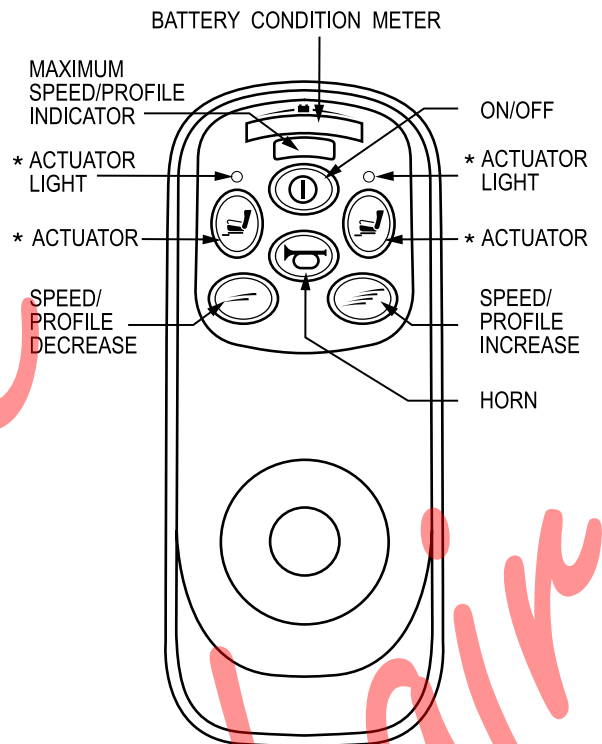

Figure 18. VSI Controller Keypad
2. keypad (see figure 18)
The keypad is located in front of the joystick. It contains keys necessary to operate your Jazzy. See figure 18.
The battery condition meter is located in front of the joystick. See figure 18. This is a 10-segment illuminated display that indicates that the VSI is turned on and also gives the battery status, the VSI status, and the electrical system status.
There are two keys that control either the speed or the profile. See figure 18. This depends on how your VSI was programmed. Press the speed/profile increase key to increase the speed or change the profile. Press the speed/profile decrease key to decrease the speed or change the profile. The speed/profile setting is displayed on the maximum speed/profile indicator. If your power chair was programmed with a drive profile, contact your authorized Pride provider for more information.